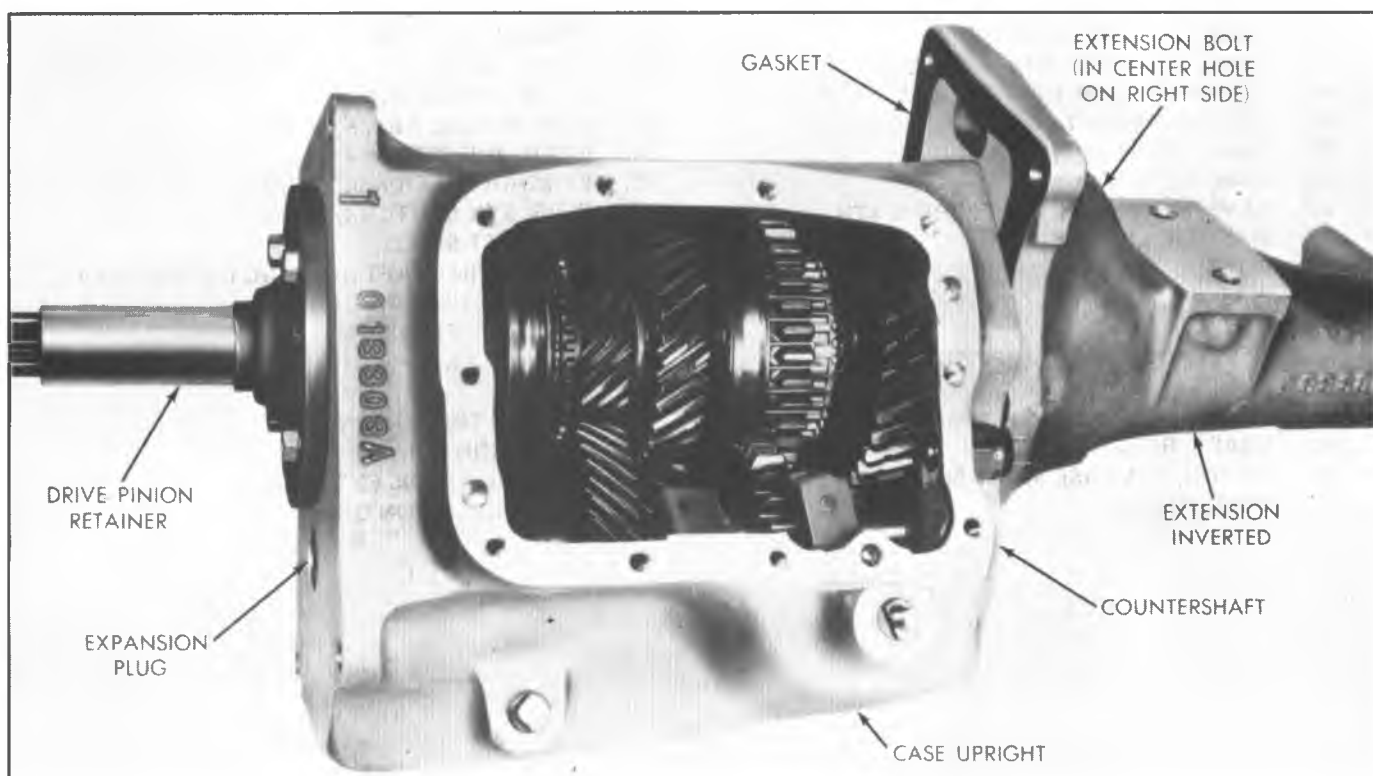

Fig. 3R--Rotating Extension Housing
4. Remove extension housing bolts and rotate the extension on the output shaft to expose the rear of the countershaft. Clearance has been provided on the extension flange to enable one bolt to be reinstalled to hold the extension in the inverted position to gain access for the countershaft removal. Refer to Fig. 3R.